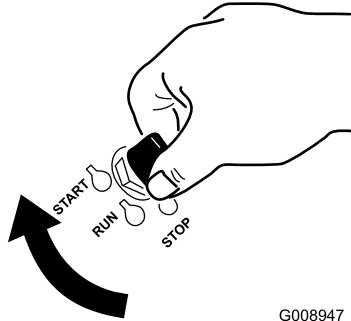

Figure 19
1. Turn the ignition key to the START position (Figure 19).